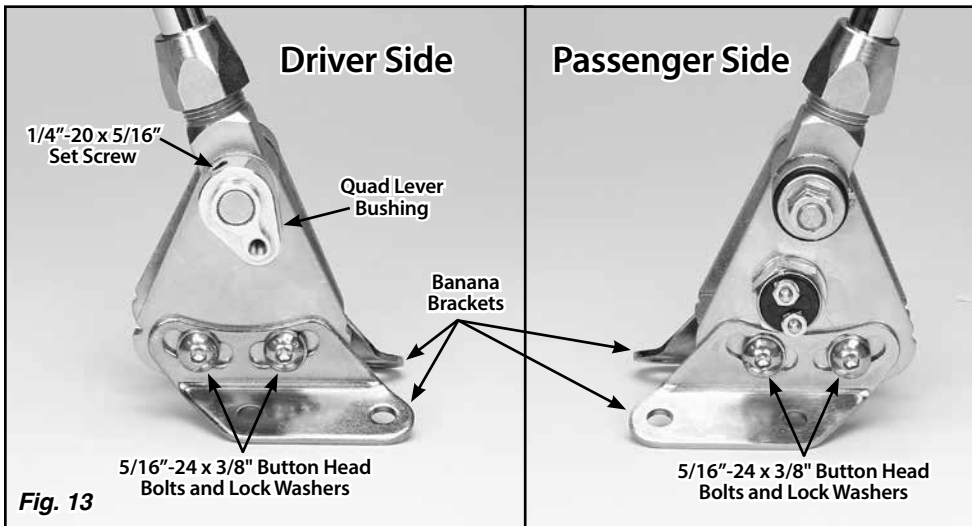

Fig. 13
Step 16: Install the banana brackets onto the shifter assembly using the 5/16"-24 x 3/8" button head bolts with lock washers. The curved, slotted holes in the banana brackets mate up to the shifter, and the bottom of both banana brackets should be pointing towards the rear. **Fig. 13**